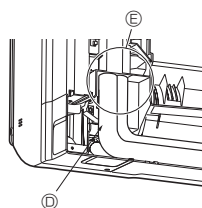

Fig. 3-10
6. Cover the flare connection portion with the pipe cover of the L-shaped connection pipe ④ so that it is not exposed. (Fig. 3-10)
- Ⓐ L-shaped connection pipe ④
8. Cover the flare connection portion with the pipe cover of the L-shaped connection pipe ④ so that it is not exposed. (Fig. 3-10)